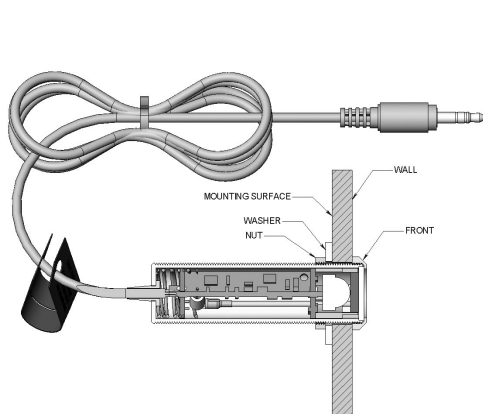

Figure 2a – 490-95 Features
3. Secure from the rear with the Washer and Nut (all supplied) as shown in **Figure 2a**. Be sure not to over-tighten nut.